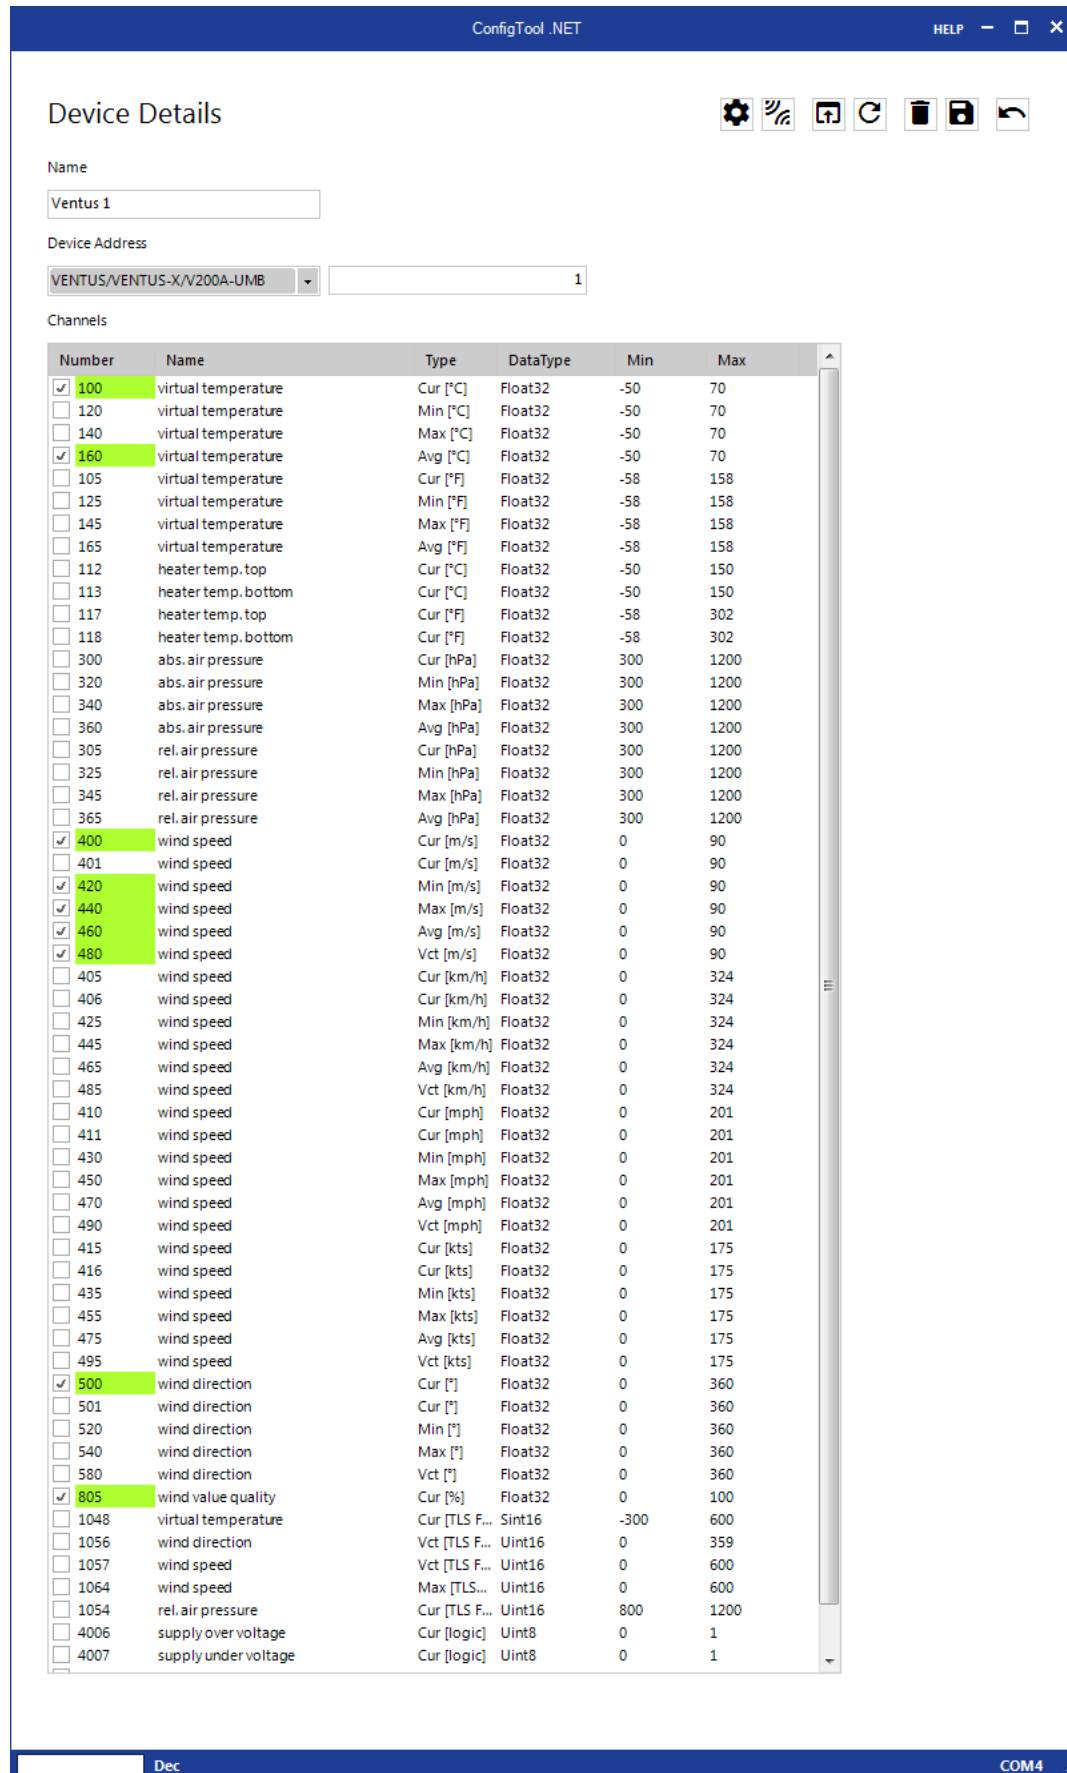

Figure 17: Channel list
- Update the channel list of your **Ventus** then select the channels which you want to query by clicking on them with the mouse, see Figure 17